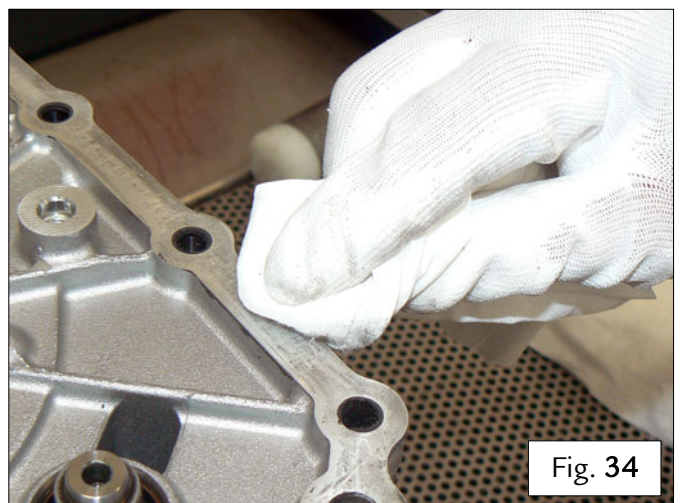

Fig. 34
- Using a lint-free cloth and heptane, remove all traces of adhesive and/or dirt from the surfaces and holes of the interface plate and from the differential housing – Fig. 34.